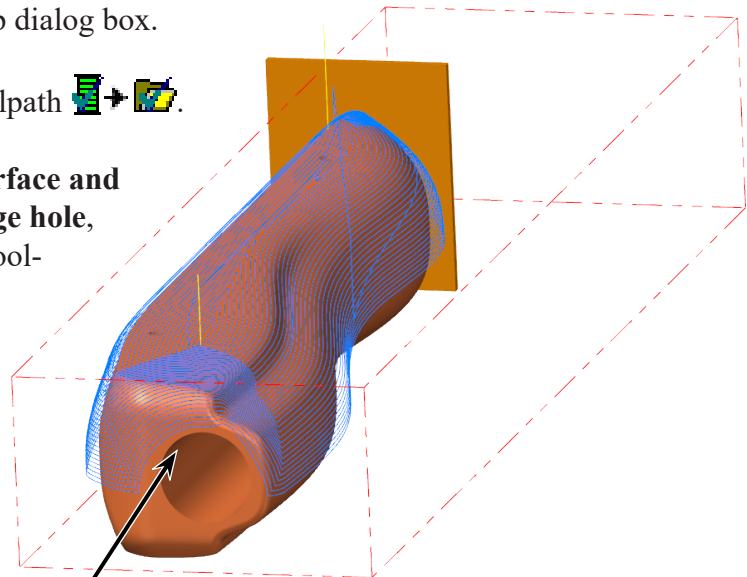

Fig. 20
Step 21. Confirm **toolpath avoids rear surface and does not pass across the cartridge hole**, **Fig. 20**. Use **Alt-T** to toggle on tool-path display.